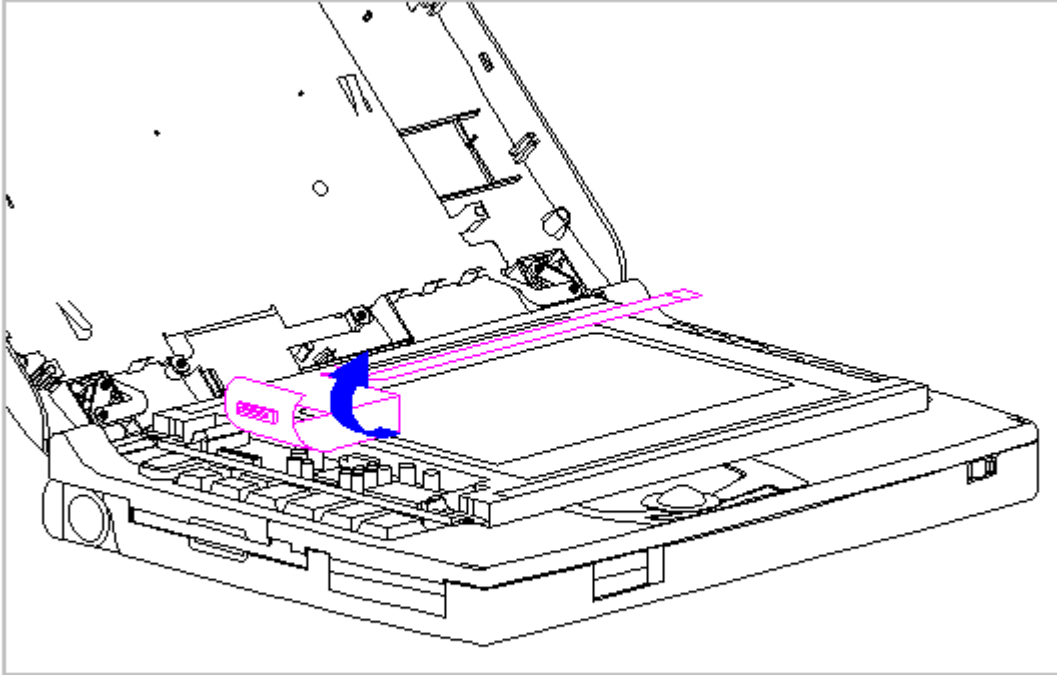

Figure 3-120. Removing the Display Cable from the CTFT (8.4 inch) Panel (Models 400 and 410)
9. Remove the display cable from the connector on the back of the panel by pulling the tabs at the back of the connector (Figure 3-120).